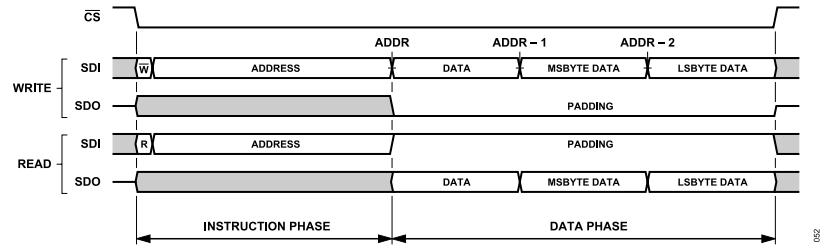
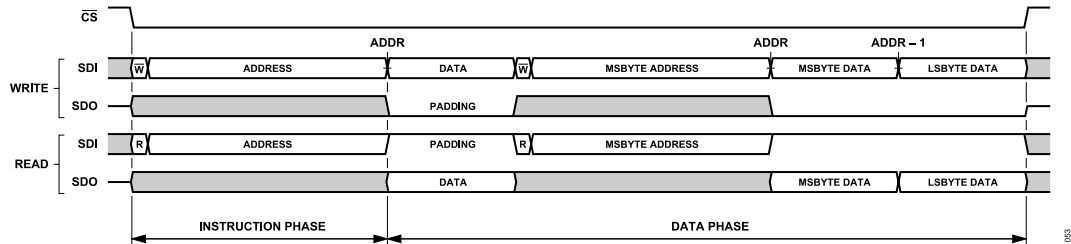
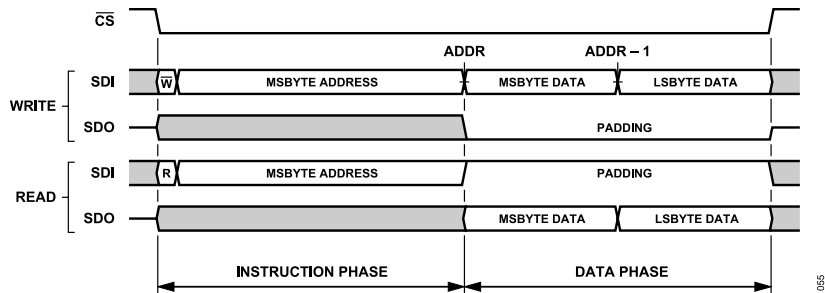
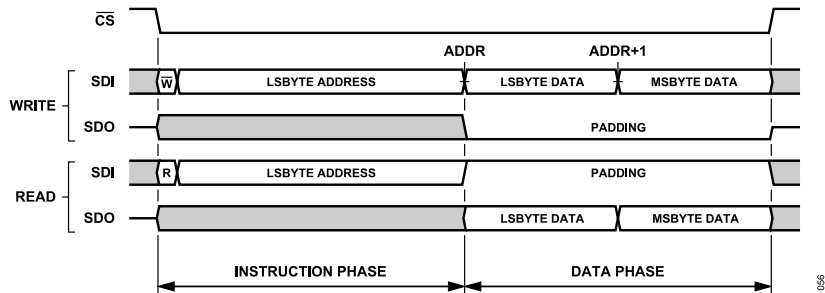

Figure 56. Interface Access Example, Default Interface Configuration, Streaming Mode (ADDR_ASCENSION = 0)
Figure 57. Interface Access Example, Single Instruction Mode (SINGLE_INST = 1), All Other Interface Options Default
Figure 59. Single Instruction Format, $ADDR_ASCENSION = 0$ (Descend), $STRICT_REGISTER_ACCESS = 1$ (Enabled)
Figure 60. Single Instruction Format, $ADDR_ASCENSION = 1$ (Increment), $STRICT_REGISTER_ACCESS = 1$ (Enabled)
Figure 56 illustrates the generic SPI frame formatting for a serial transaction using the default interface configuration. In this example, a portion of the configuration register space consisting of a byte-wide register and a multibyte register is accessed. The address for the byte-wide register resides in the most significant address (ADDR) and the most significant byte of the multibyte register resides in the least significant address of the register segment. By default, the ADDR_ASCENSION property is set to descending, indicating that the address for the most significant register is passed to the host controller during the instruction phase. Depending on the selected operation, the instruction word
In single instruction mode (SINGLE_INST = 1), the memory access controller requires an instruction phase to transmit for each register accessed in a given SPI frame as illustrated in Figure 57. This mode is useful when access to nonadjacent sections of the register space is required in a given SPI frame. Note that, the same access flexibility can be achieved in stream mode by initiating a new SPI frame for each unique register access.
The address ascension selection (ADDR_ASCENSION) bit, as described in previous sections, determines how the internal interface address pointer is updated for each byte of data transmitted to the AD4084 in streaming mode (SINGLE_INST = 0). If using single instruction mode (SINGLE_INST = 1), each register is directly addressed through its own instruction phase as illustrated in Figure 57, and thus, the address pointer is not updated. Regardless of the setting for SINGLE_INST, the ADDR_ASCENSION bit directly impacts the formatting of the SPI frame in terms of selection of the instruction phase starting address and byte order of the data phase payload. This impact is described in greater detail in the Strict Access Selection and Multibyte Registers section as much of the data formatting is dependent on this interface configuration selection. The ADDR_ASCENSION selection bit is located in the Interface Configuration A register (see the Interface Configuration A Register section, Address 0x00).
As indicated in Figure 59, the address counter, by default, automatically decrements ($ADDR_ASCENSION = 0$) such that the most significant byte of the multibyte register is accessed first, followed
As an extension of this concept, when $STRICT_REGISTER_ACCESS = 1$, any SPI frame that accesses a multibyte register as the first entity in the data transfer must correctly set the starting address in the instruction word to correspond to the $ADDR_ASCENSION$ selection. In the case that the address counter automatically decrements ($ADDR_ASCENSION = 0$), the starting address is assigned to the register address for the least significant byte of that multibyte register, and conversely, if configured to increment automatically, the starting address must be set to the register address for the most significant byte. As a result of the change to $ADDR_ASCENSION$ from automatic address decrement (0) to automatic increment (1), Figure 56 and Figure 57 will change as illustrated in Figure 59 and Figure 60 to accommodate the changes in data phase byte order and instruction phase multibyte register start address.